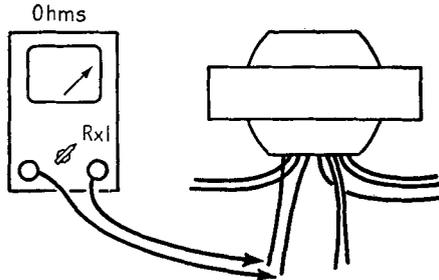

FIG. 8-8. Resistance of each winding.
2. Read the resistance of each winding, as shown in Fig. 8-8.